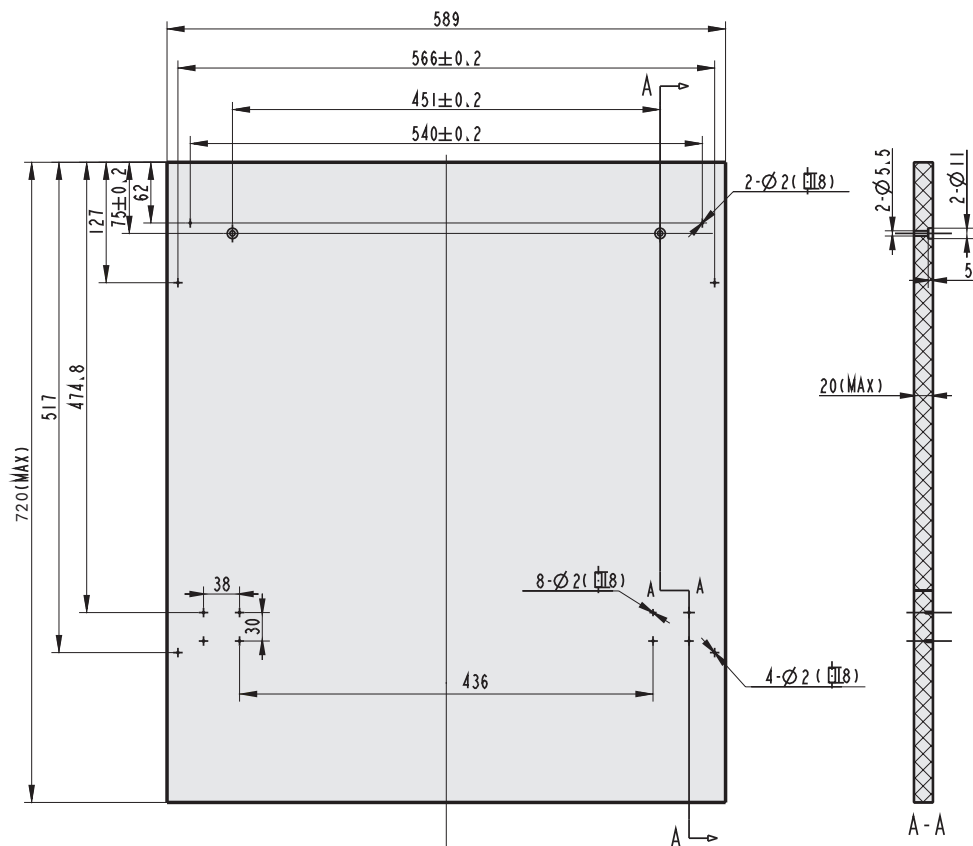

Figure 3
1. The aesthetic wooden panel could be processed according to the *Figure 3*, in accordance with the illustrated dimensions